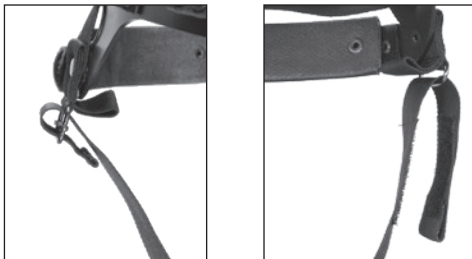

Figure 6.2
1. Remove the chinstrap (Figure 6.2) by unsnapping the Velcro tape from the left side of the headband. Unbuckle the chinstraps from narrow strap assembly.
2. Replace the chinstrap by using the Velcro tape on the left side of the headband. Lace the right straps into their respective sliding bar buckles on the right side of the headband for correct lacing (Figure 6.2).